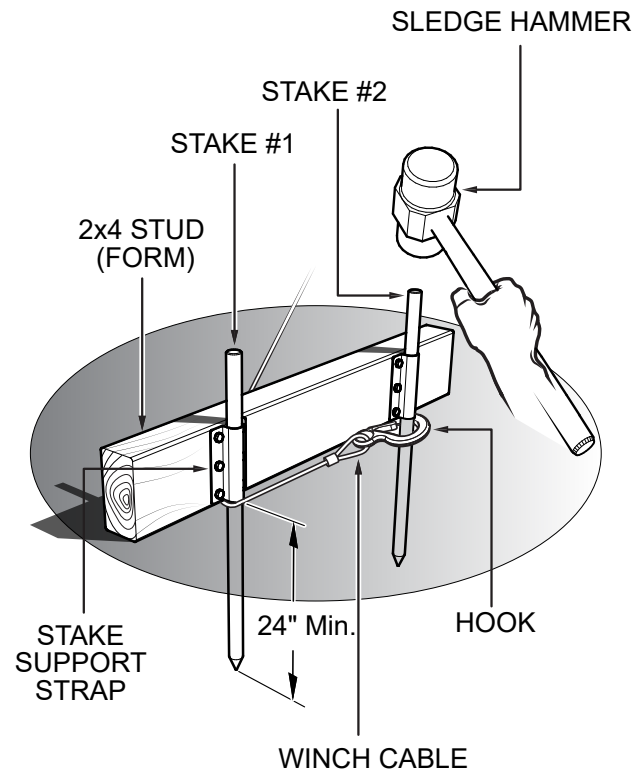

Figure 17. Attaching Winch Stakes
Figure 17 illustrates the correct method of attaching the winch cables to the form stakes. If the winch cables are not attached to the form stakes correctly, the cables could snap loose causing **severe bodily harm** and damage to the equipment.
2. Loop the hook end of the winch cable around the first stake from the end of the form as shown in Figure 17. Make sure you go underneath the form.
DO NOT hook winch cables to a stake driven directly into the ground. Stakes should be installed as shown in Figure 17. The stake can tilt and allow the winch cable under tension to snap and break free causing **severe bodily harm** and damage to equipment.